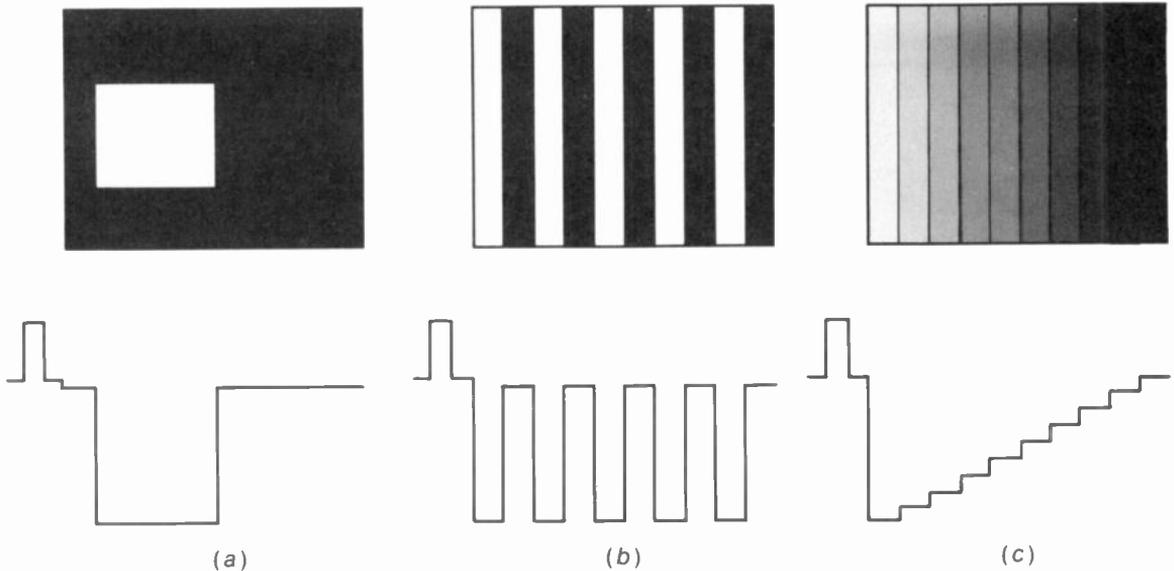

FIGURE 5-12 PATTERNS FOR TEST PURPOSES, WITH CORRESPONDING VIDEO SIGNAL FOR ONE HORIZONTAL LINE. (a) WINDOW SIGNAL. (b) BAR PATTERN. (c) STAIRCASE SIGNAL.
More specific test signals are illustrated in Fig. 5-12. The *window signal* in *a* provides maximum white and black in large areas with a sharp transition to check edge distortion, streaking, and smearing. In *b* the uniformly spaced black-and-white bars can be used to check scanning linearity. The bars may be vertical, or horizontal, or both may be used in a *crosshatch* pattern. The *staircase signal* in *c* illustrates uniform changes in signal amplitude from white, progressing through gray values in equal steps to black. This is called a *gray scale*.
4. Calculate the frequency of video signal produced in horizontal scanning of the window signal in Fig. 5-12. Assume  $53.3 \mu\text{s}$  visible trace time.